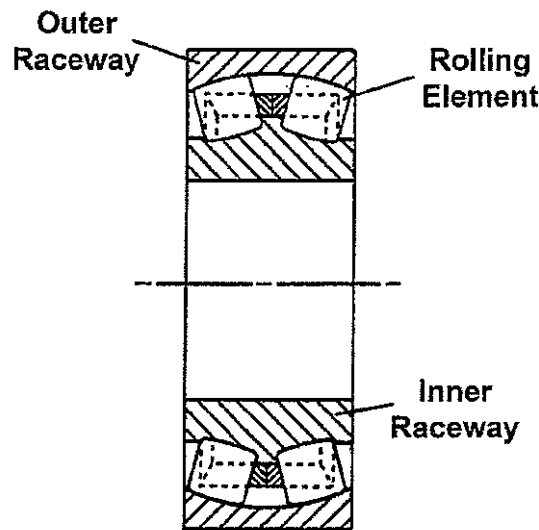

FIGURE 3
- 3.1 Refer to FIGURE 3 below of the anti-friction bearing and answer the questions that follow.